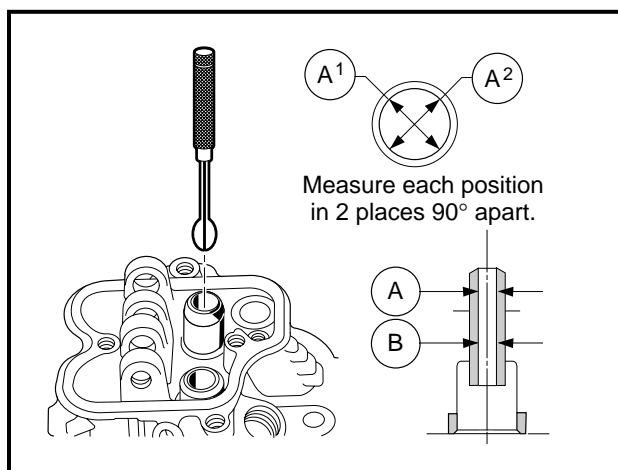

Figure 13-18 Measure I.D. of Valve Guides
1. Measure the inside diameter of each guide with a telescoping gauge (**Figure 13-18, Page 13-13**).